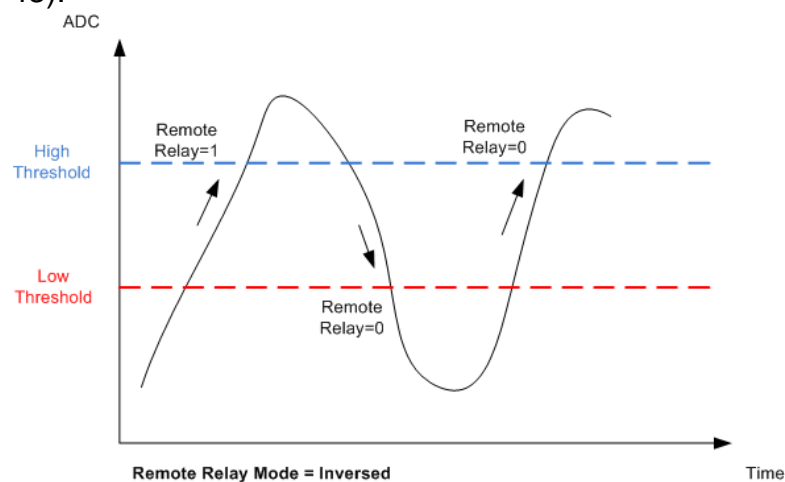

Figure 43. Controlling remote relay when **Remote Relay Mode** parameter is "Inversed"
- *Inversed* - when the rising analog input value crosses the **High Threshold**, the remote relay (digital output) will be ON (1). When the falling value crosses the **Low Threshold** the remote relay (digital output) will be OFF (0) (Fig. 43).